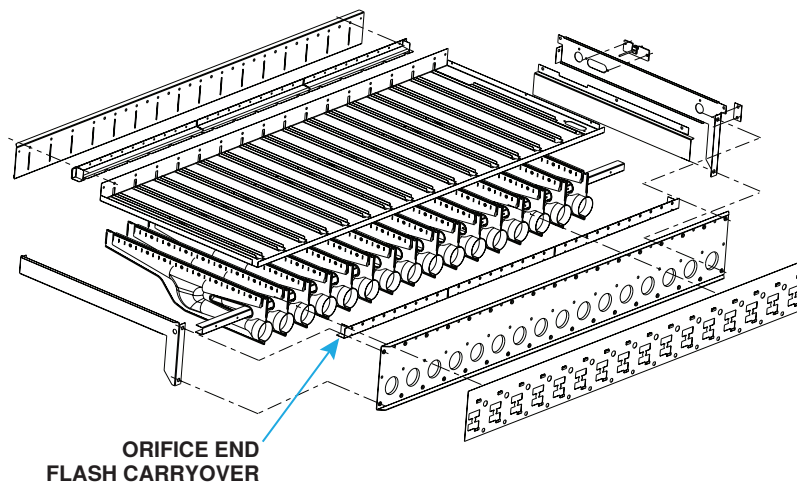

Figure 3. Flash Carryover Removal
- b. For units being converted to propane, install regulated carryover assembly (PN 100712) using original natural gas carryover orifice. Remove flash carryover (see Figure 3) from orifice end of burner rack—do not remove flash carryover from other end of burner rack—and install drip shield and carryover lighter tube.